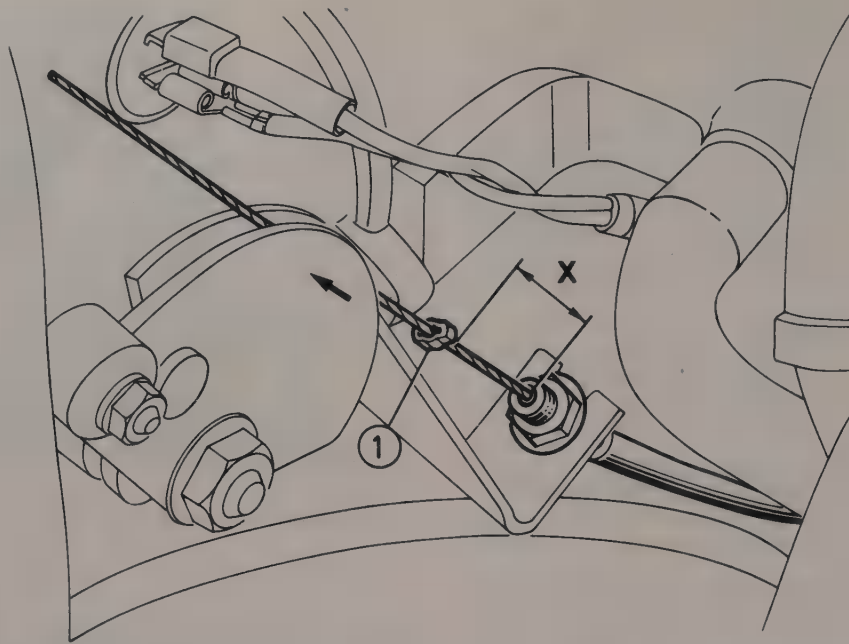

Fig. 6.16 Correct position of crimped stop (1) when kickdown occurs (Sec 29)
- 4 When fitting a new cable, pull out the inner cable until kickdown occurs, then crimp the stop in the position shown in Fig. 6.16.